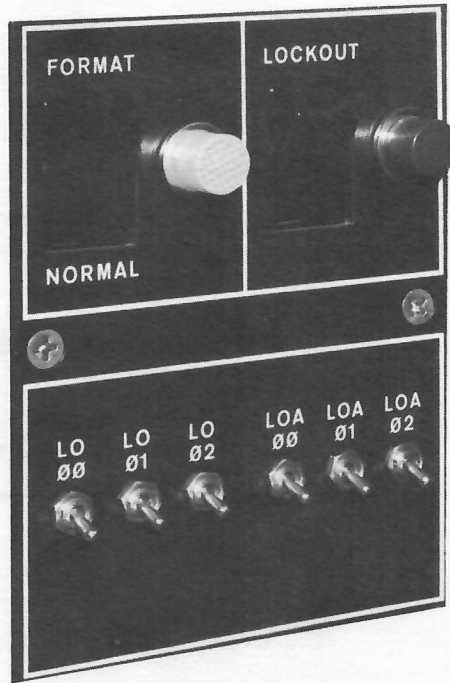

Figure 6-4 RP15 Control Panel
6.1.1.3 RP15 Control Panel - The RP15 control panel controls and indicators are illustrated in Figure 6-4 and are described in Table 6-3. Operator usage of the controls is explained in Paragraph 6.1.3.
6.1.4.2 Selected Unit Lock-Out - Mounted in the lower right-hand corner of the RP15 logic panel is a group of switches labeled as shown in Figure 6-4. To the right of the switch labeled LOCK-OUT is a red indicator which lights when the Lock-Out switch is in the LOCK-OUT position. When this indicator is off, both Read and Write operations are enabled on the selected unit.